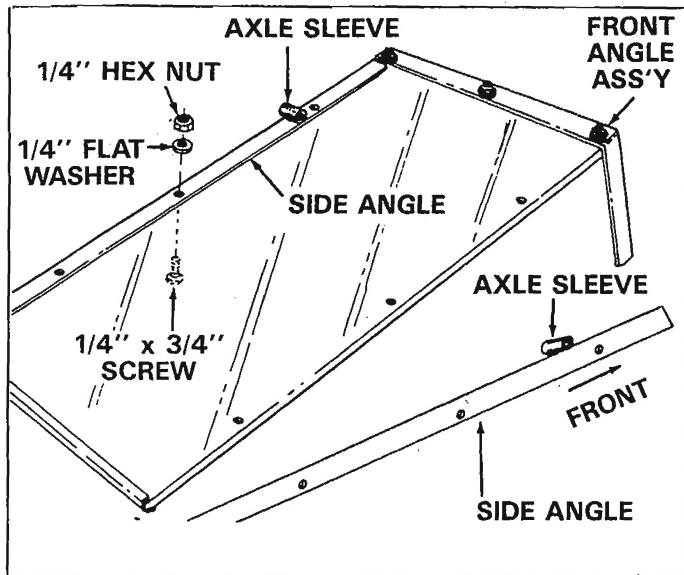

FIGURE 3
3. Turn front angle assembly and bottom panel upside down as shown in figure 3.
4. Lay the two side angles on bottom panel so that the axle sleeves are towards the front angle assembly. See figure 3.
5. Secure the two side angle assemblies to the bottom panel with six  $1/4"$  x  $3/4"$  truss head screws, flatwashers and hex nuts. Only make finger tight, until all six screws are in place, then tighten securely. See figure 3.